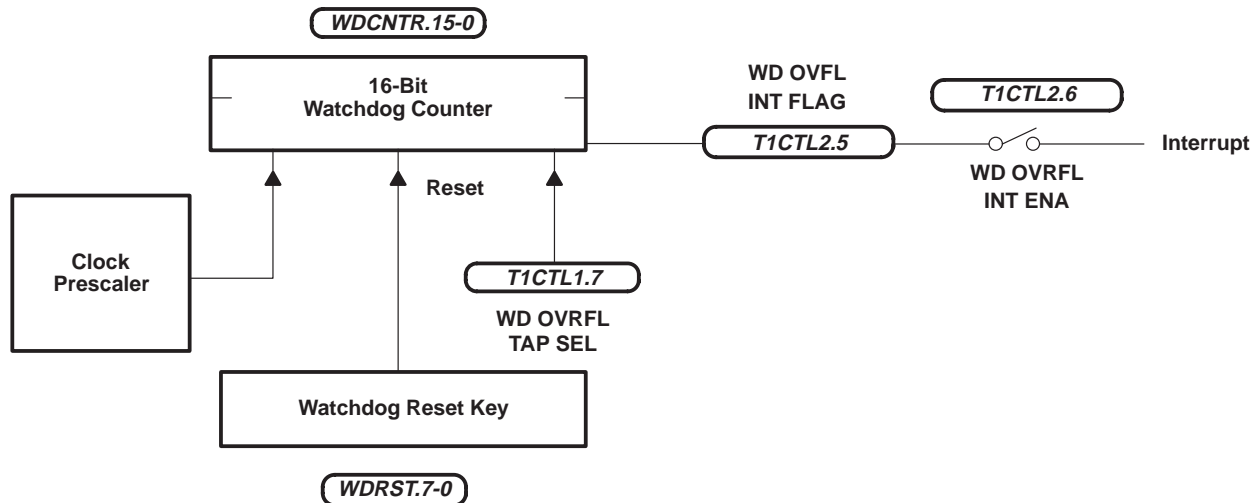

Figure 10. Simple Counter
- Simple-counter configuration for mask-ROM devices only (see Figure 10)